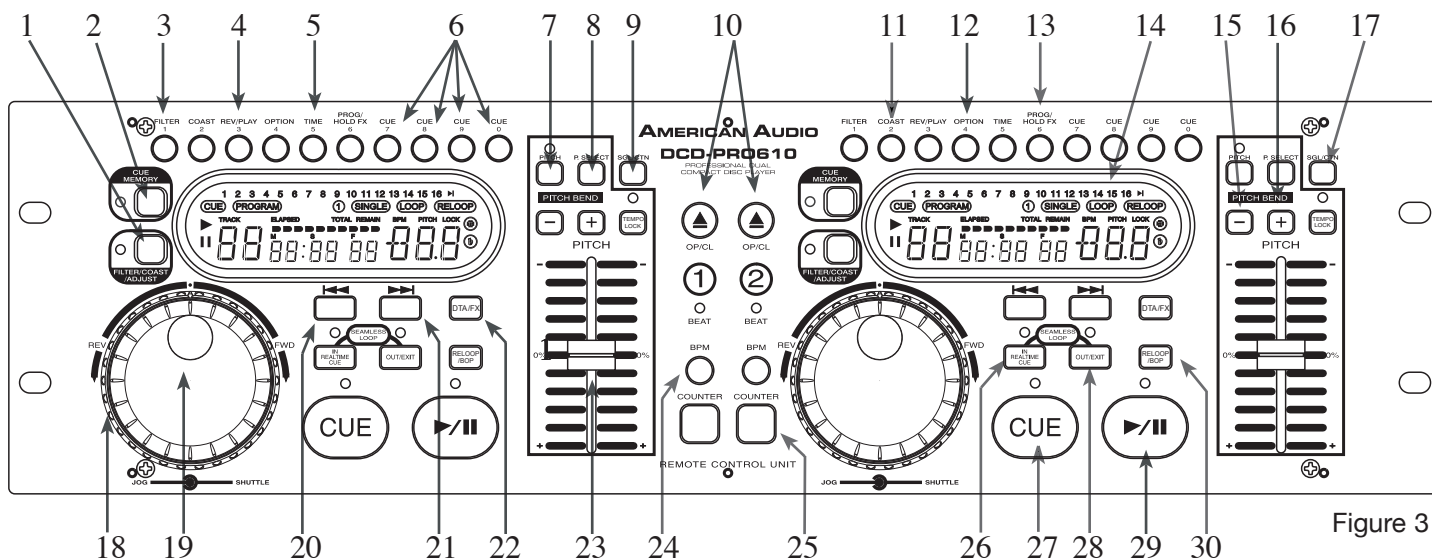

Figure 3
A. REMOTE CONTROL - FACE (FIGURE 3)